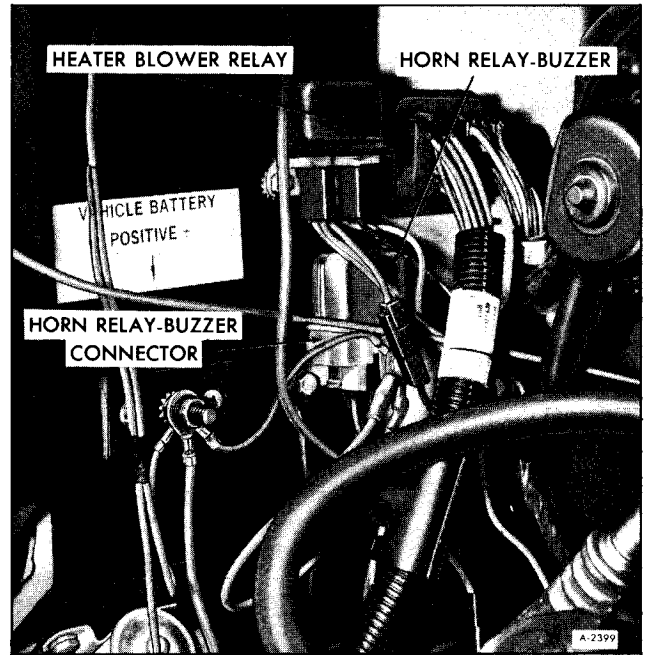

Figure 35-Horn Relay-Buzzer Installation
The horn relay-buzzer (figure 35) includes both the horn relay and door buzzer. The horn relay-buzzer operates when the vehicle door is open with the ignition key in the switch and the switch in the "off" position. Closing the door or removing the key will stop buzzer operation. The relay is located behind the right front access door.
2. Remove horn relay buzzer connector (figure 35).